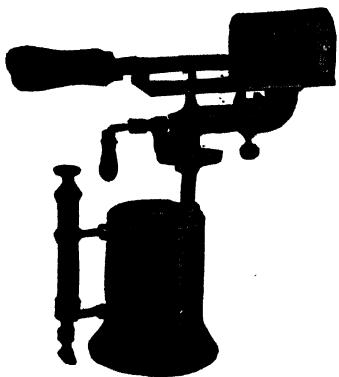

Fig. 17. Soldering Iron Heating Stove
**Special Stoves and Irons.** Special stoves for heating soldering irons are made and vary in construction. Fig. 17 shows one of the most common forms of soldering-iron heating stoves. Some shops make use of an electric iron for soldering, wherein the temperature of the iron is uniform. Such a tool is shown in Fig. 18.